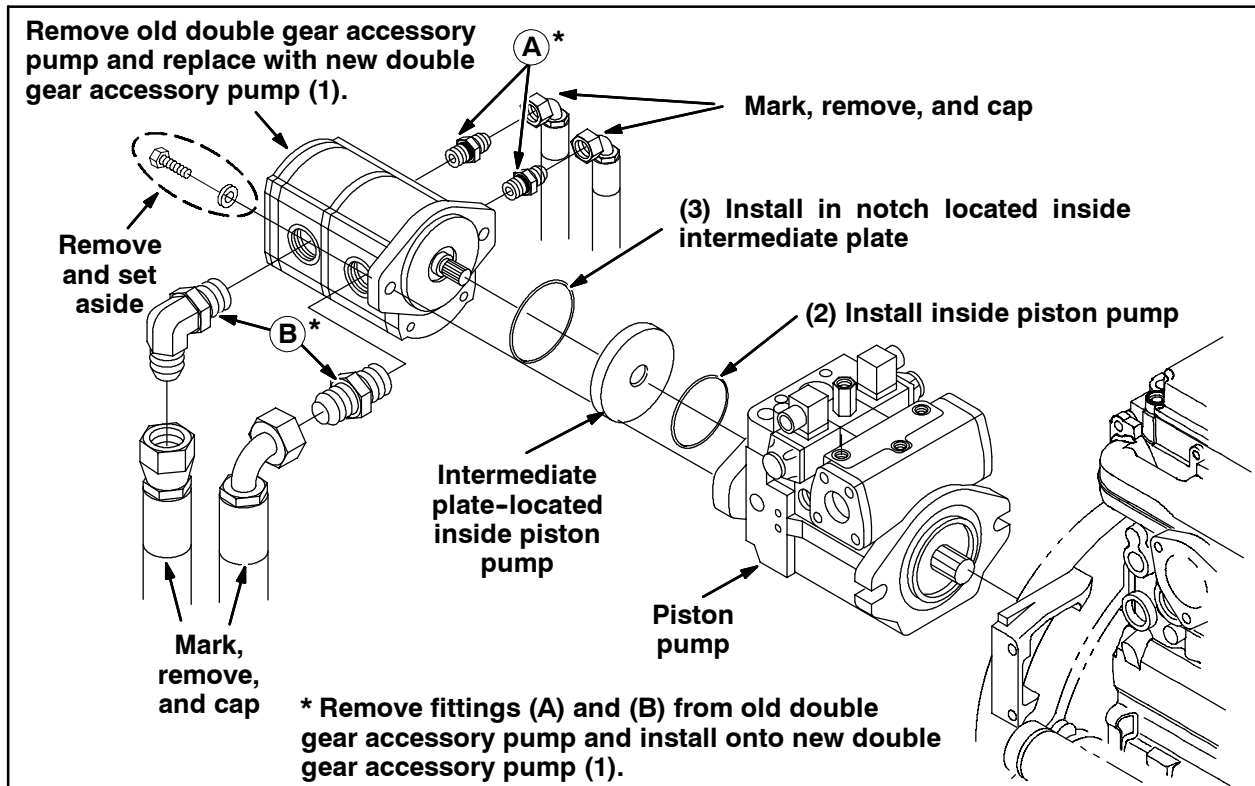

FIG. 1
4. Apply a light coat of grease to new o-rings (2) and (3). Grease helps hold the o-rings in place when the double gear accessory pump is installed onto the piston pump.
5. Insert o-ring (2) into the piston pump, where the old o-ring was previously located.
6. Insert o-ring (3) into the notch inside the intermediate plate.
7. Carefully insert the intermediate plate into the piston pump. Be sure both o-rings (2) and (3) remain in place.
8. Remove fittings (A) and (B) from the double gear accessory pump. Note port and rotation of fittings on the double gear accessory pump.
9. Install fittings (A) and (B) removed from the old pump in the previous step onto the new double gear accessory pump (1). Position the fittings as they were previously positioned.
10. Apply a light coat of grease onto the shaft of the new double gear accessory pump (1).
12. Carefully, so the intermediate plate does not move from position, insert the shaft end of the new double gear accessory pump (1) into the piston pump.
*NOTE: If the intermediate plate moves when the double gear accessory pump is installed, remove the intermediate plate from the piston pump and inspect the o-ring (2). It is very easy for this o-ring to move from the notch.*
13. Use the hex screws and washers removed in Step 3 to secure the double gear accessory pump (1) to the piston pump. Tighten to 90–117 Nm (65–85 ft. lbs.). Refer to Fig. 1.
14. Connect the hydraulic hoses to the correct ports on the new double gear accessory pump (1).
16. Start the machine and check the hydraulic system for proper operation. Also, check around the hydraulic hoses/fittings (A) and (B) for leaks.